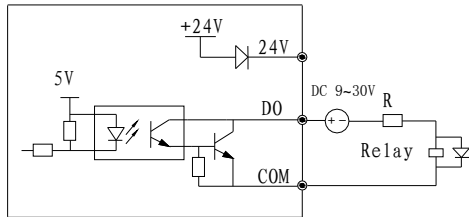

Fig. 2-14 On-off output connection mode 2 of multi-function output terminals
2) Multi-function output terminals DO as discrete output can also use the external, 9~30V, power supply and the wiring method is shown in Figure 2-14